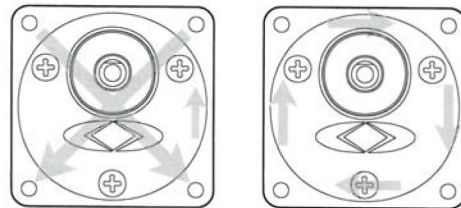

Figure 16.
5. After assembling, fasten the 4 exclusive bolts diagonally (Figure 16) making sure to fasten bolts to the required torque specifications. (Table 2)